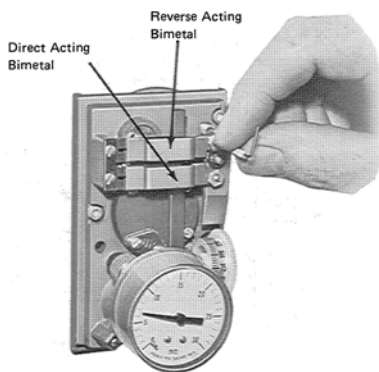

Figure-6
5. With a 0.48-inch six spline wrench, turn the calibration screw (Figure-6) clockwise if the controlled pressure is above 8 psig (55.1 kPa) and counterclockwise if it below 8 psig (55.1 kPa). Adjust the screw until the controlled pressure is  $8 \pm 1$  psi ( $55.1 \pm 1$  kPa).